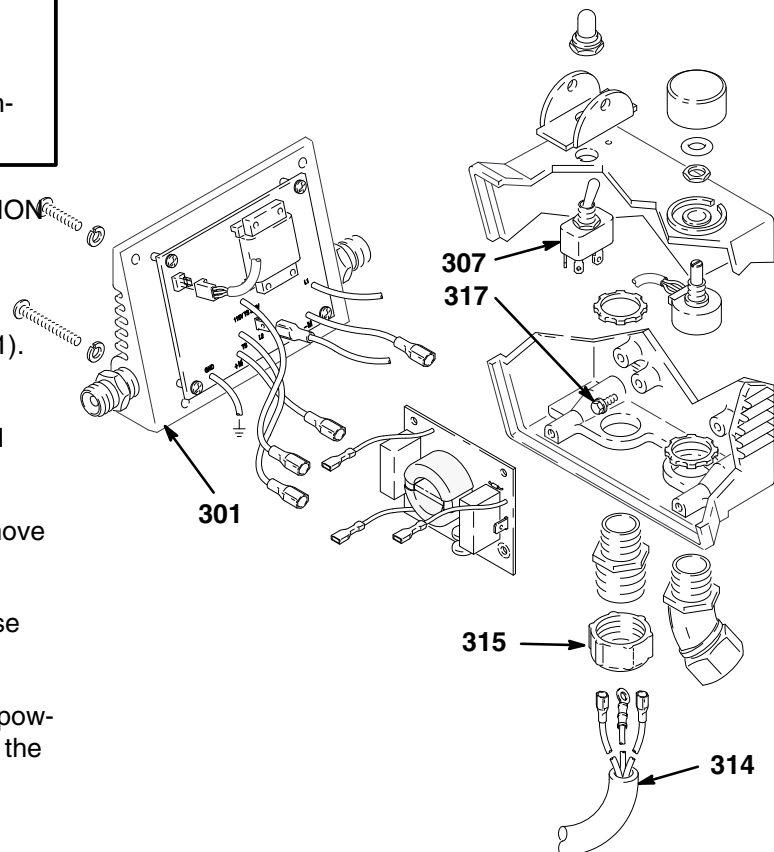

Fig. 15
## Power Supply Cord Replacement (Fig. 15)
2. Remove the pressure control board/cover (301).
3. Disconnect the two wires from the ON/OFF switch (307). See Fig. 15.